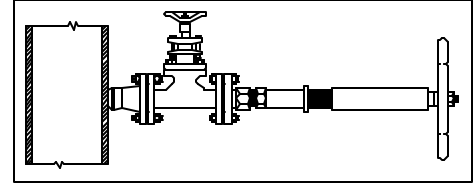

Figure 6. Hot Tap Drilling Machines
- With the access valve in the full open position, install an appropriate Hot Tap Drilling Machine (Figure 6) and drill a hole in the pipe (hole sizes